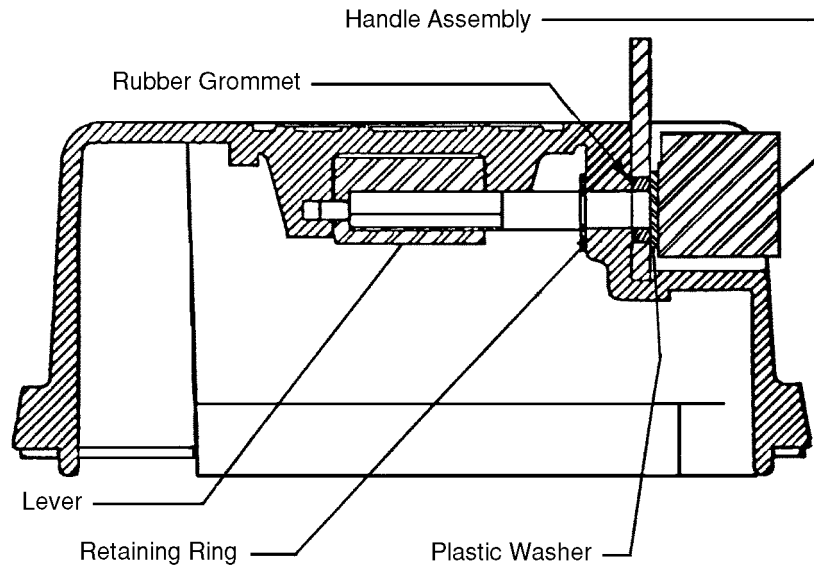
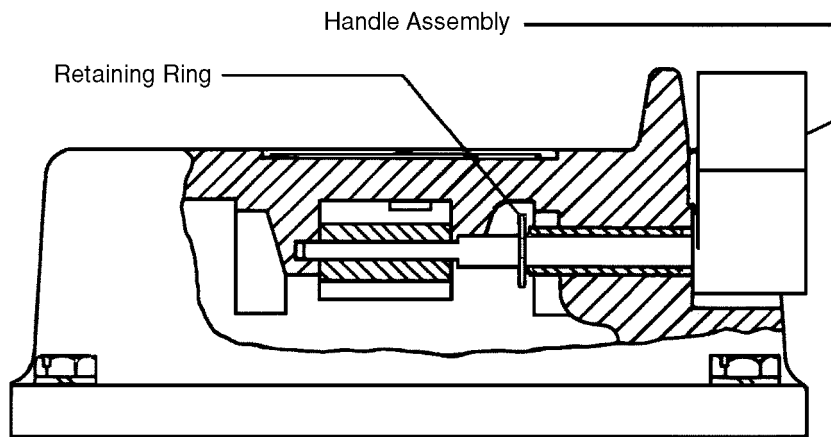

Figure 1 Type 4X Enclosure (represents Type 4 and 12)
Figure 2 Type 7 and 9 Enclosures
For Type 4, 4X or 12 enclosures, refer to Figure 1 on page 2. For Type 7 or 9 enclosures, refer to Figure 2 on page 2.
3. If not already assembled, assemble plastic washer and rubber grommet onto the shaft as shown in Figure 1.